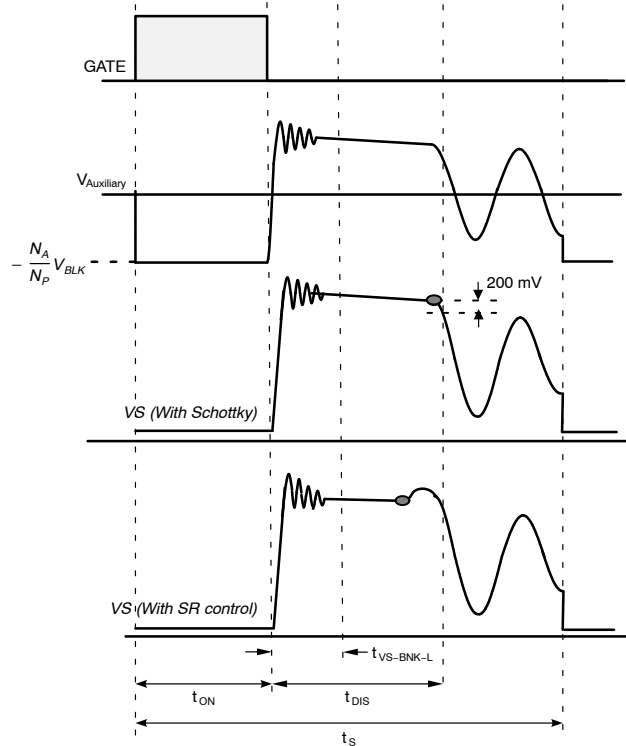

Figure 26. VS sampling with Diode or Synchronous Rectifier
VS voltage which is reflected auxiliary winding and proportional to output voltage. Therefore, It is possible to regulate output voltage by sensing VS voltage. Figure 26 shown VS sampling waveform with secondary rectifier that using Schottky diode or Synchronous Rectifier (SR).
In order to regulate output voltage in accurately range, FAN105A build-in VS sampling methodology for signal like Figure 26 showed, FAN105A samples and hold VS voltage as EAV at timing like gray point showed. Base on EAV level to regulate Pulse width to achieve estimation output voltage.
A leading edge blanking time (t_{VS-BNK-H/L}) start from primary switch turned off, that is caused by the resonance of leakage inductance and parasitic capacitance at transformer. In order to avoid VS sampling procedure get impacted by that ringing, the oscillation should be settle before settle down before t_{VS-BNK-L} ended as Figure 26 showed. t_{DIS} is secondary rectifier current discharging time which recommend better design is longer than t_{VS-BNK-H} during minimum on time controlling. t_{DIS} is predictable by following formula: